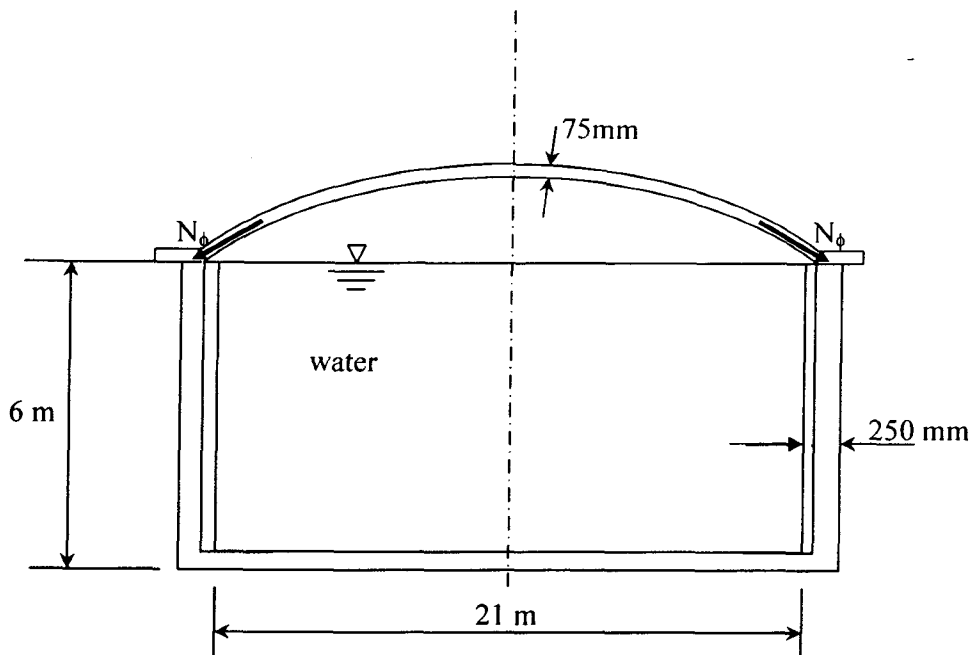

Figure 4
- (b) A circular cylindrical water tank with an internal diameter of $d = 21\text{m}$ and height of $H = 6.0\text{m}$ as shown in Figure 4 is to be constructed. Thickness of the wall is 250mm . A cover in the form of spherical roof with half open angle $\alpha = 30^\circ$ is to be provided. Thickness of the spherical roof has been chosen as 75mm . Calculate the membrane stress resultant N_ϕ at the base of the spherical roof. The designed load for the spherical roof is 3.75kN/m^2 which is to be considered as distributed over the surface.